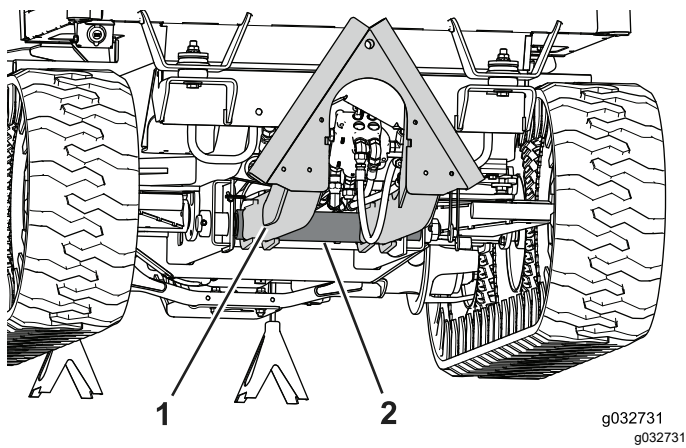

Figure 105
3. Position a floor jack under the pivot point for the attachment assembly and raise the front of the frame until the center wheels swing back, nearly contacting the rear wheels (Figure 105).